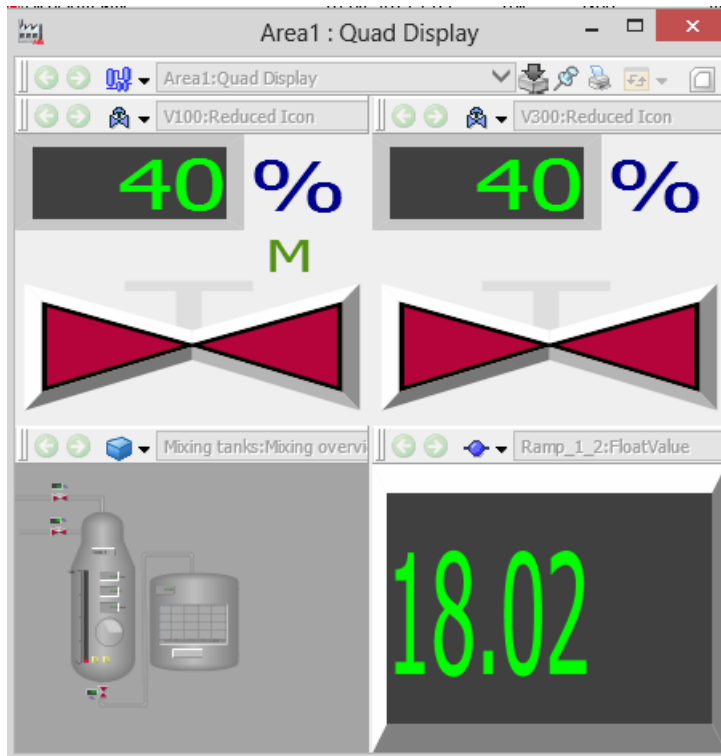

Figure 84. Main View of the Quad Display
3. Click **Apply**. The result will look like Figure 84.